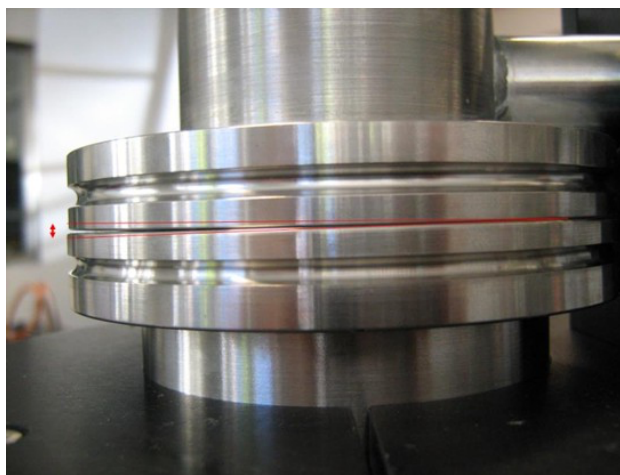

Figure 2: Slightly tilt the vacuum tube to see if it's centred correctly
4. Tilt the vacuum tube (Figure 2) to the left and right and to the front and back to check if the vacuum tube is centered in the attoDRY1000.